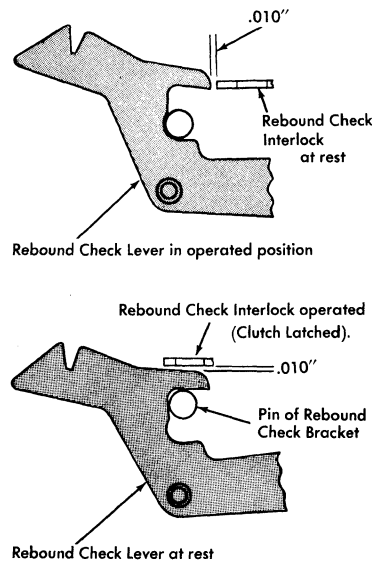

Figure 30. Rebound Check Interlock Lever
13. Adjust the link to the rebound check interlock so that the interlock lever clears the tab rebound check lever by about .010" when the rebound check lever is in its operated position. With the clutch unlatched, operate the tab lever by hand to observe this adjustment (Figure 30). Operate the carriage return cam by hand and observe that the rebound check interlock does not strike the rebound check lever at rest. Form the top of the interlock lever to provide a clearance of about .010" (Figure 30).